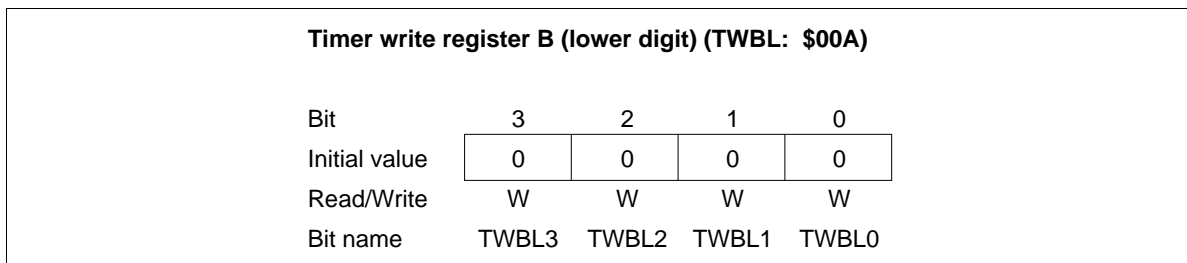

Figure 42 Timer Write Register B Lower Digit (TWBL)
- Timer write register B (TWBL: \$00A, TWBU: \$00B): Write-only register consisting of the lower digit (TWBL) and the upper digit (TWBU). The lower digit is reset to \$0 by MCU reset, but the upper digit value is invalid (figures 42 and 43).